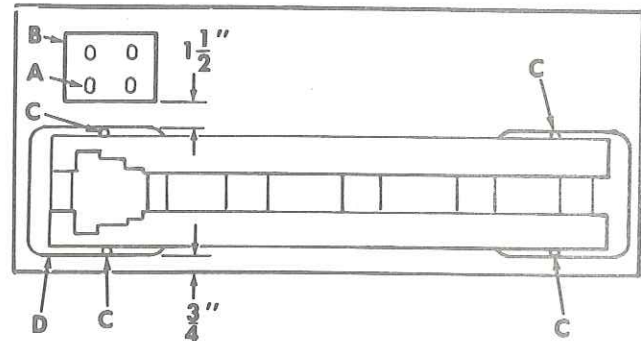

Figure 3
Remove bolts from skid and place the lathe on the bench in the position shown in Fig. 3 with front edge of the lathe leg (D) about $\frac{3}{4}$ " from the front of the bench. Mark the position of four mounting holes (C).
Position countershaft bracket assembly (B, Fig. 3) $1\frac{1}{2}$ " away from lathe bed leg (D) and make sure that countershaft pulley is in line with and parallel to spindle pulley. Mark and drill four holes (A) in bench.